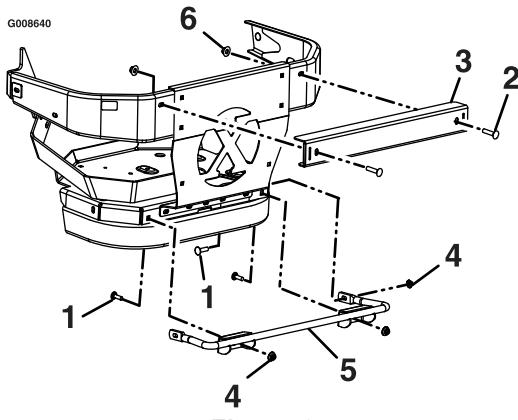

Figure 6
1. Mount the upper bracket to the left and right rear bumpers using 1/2-13 x 2 1/2 carriage bolts and 1/2-13 lock nuts (see Figure 6).